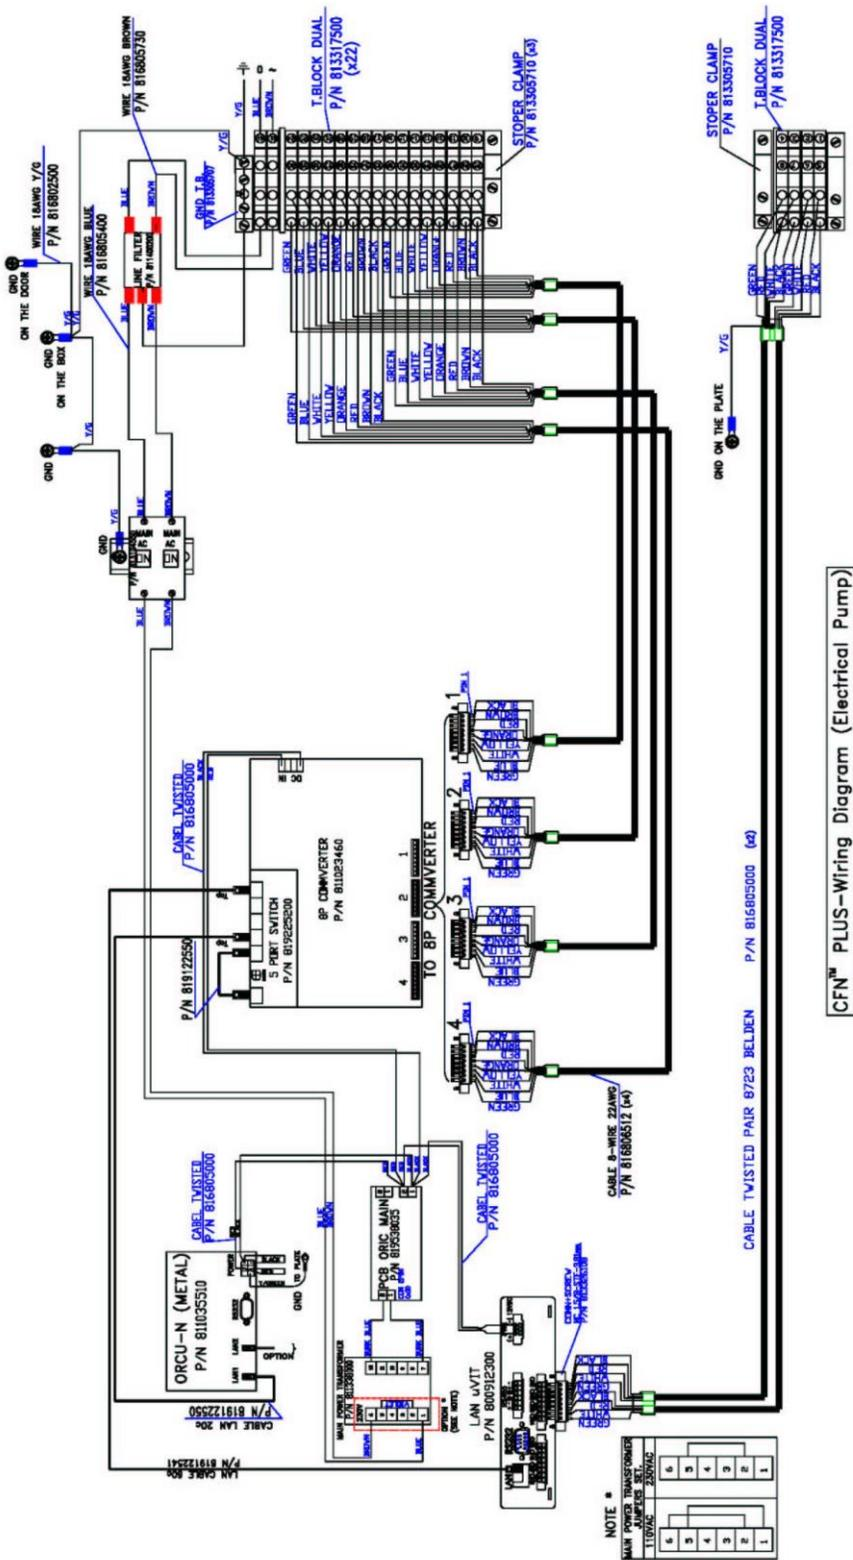

Figure B-2 CFN PLUS - Wiring Diagram (Electronic Pump)
- Figure B-2 CFN PLUS - Wiring Diagram (Electronic Pump)